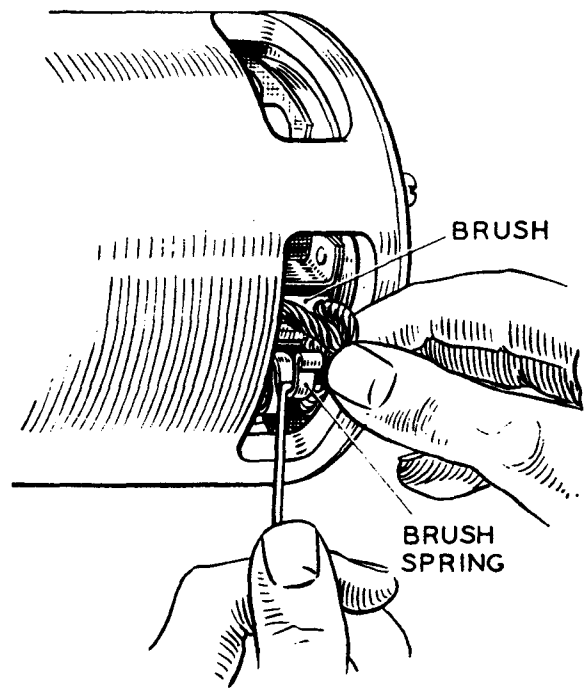

Fig. S.4.
1. Check that brushes move freely in their holders by holding back brush springs and pulling gently on the flexible connectors (Refer to Fig. S.4). If movement is sluggish, remove brush from its holder and clean its sides with a fluffless petrol moistened cloth. Replace brush in its original position. Brushes which are worn to less than $9/16$ in (14 mm) long must be renewed.